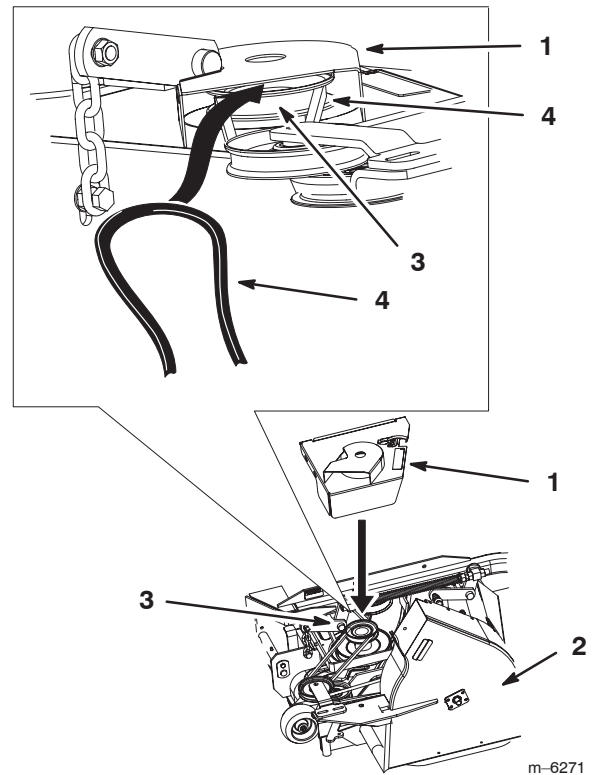

Figure 16
5. **For 52 inch mowers only**, loosely install the belt cover, insert the bagger belt under the belt cover and onto the top mower pulley. Secure the belt cover latch (Fig. 16).